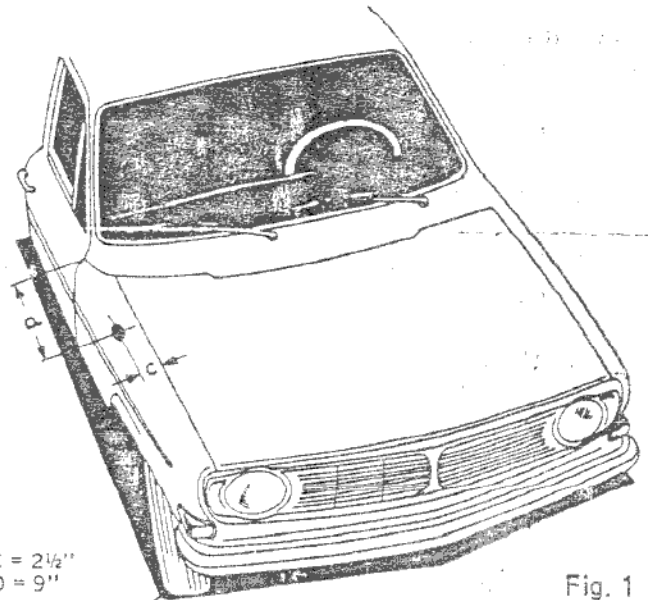

Fig. 1
- 1.1 Position antenna mounting hole as shown in Fig. 1.